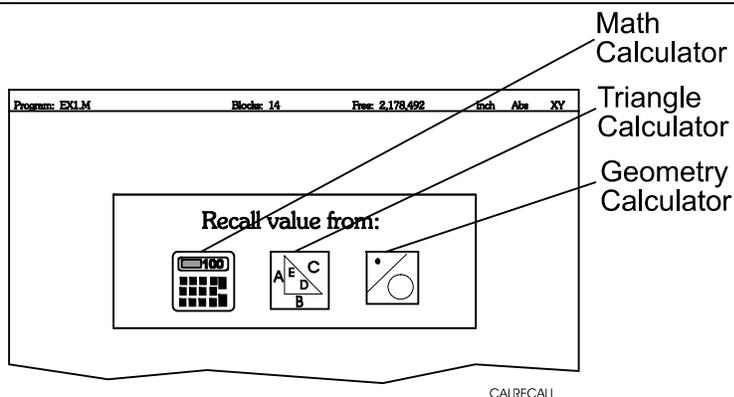

Figure 5-5, Recall Selection Pop-Up
Refer to **Figure 5-5**. The Program Editor displays **Recall (F2)** when a graphic menu activates. You can now recall calculator solutions stored in memory directly to the entry fields of a graphic menu.
1. From the graphic menu for the block being edited, highlight the field and press **Recall (F2)**. The Calculator Recall Selection Menu is displayed. Refer to **Figure 5-5**.
2. Press **Recall (F2)**. The **Select value:** menu is displayed. Refer to Figure 5-5, Recall Selection Pop-Up.
2. Press **Recall (F2)**. The Calculator Recall Selection Menu is displayed. Refer to Figure 5-5, Recall Selection Pop-Up.